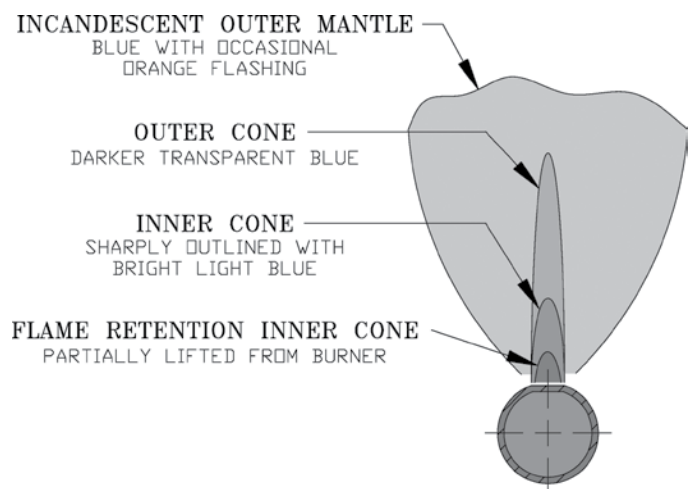

Figure 46: Main Burner Flame
3. Check main burner flames. See Figure 46. Flame should have clearly defined inner cones with no yellow tipping. Orange-yellow streaks caused by dust should not be confused with true yellow tipping.